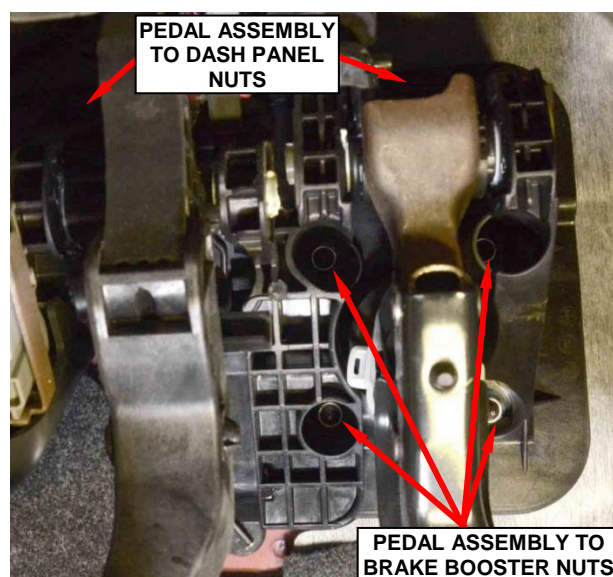

Figure 15 – Pedal Assembly Fasteners
30. Remove and discard the six mounting nuts from the clutch/brake pedal assembly. The nuts are not to be reused (Figure 15).